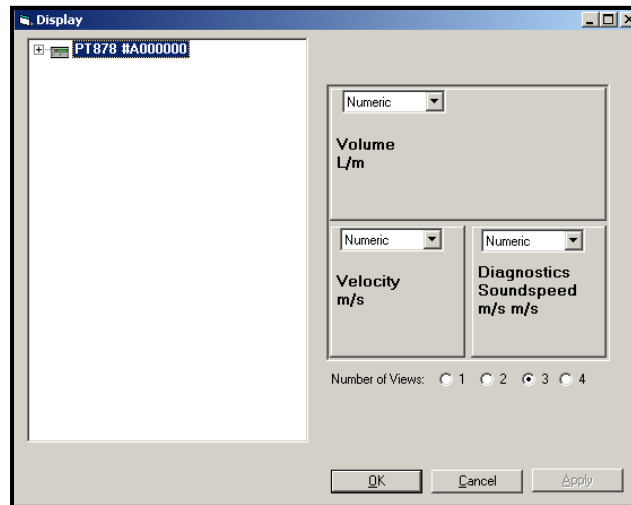

Figure 36: The Meter Display Window for a PT878
3. From the expanded tree, double-click on the “Display” option. The “views” (windows) on the right show the data sources (velocity, volumetric, diagnostics, etc.) and display units that the PT878 is currently displaying. Figure 36 on the next page shows a typical “Display” option window for a PT878. Each individual view shows the mode and unit measured in the corresponding view on the PT878 display.